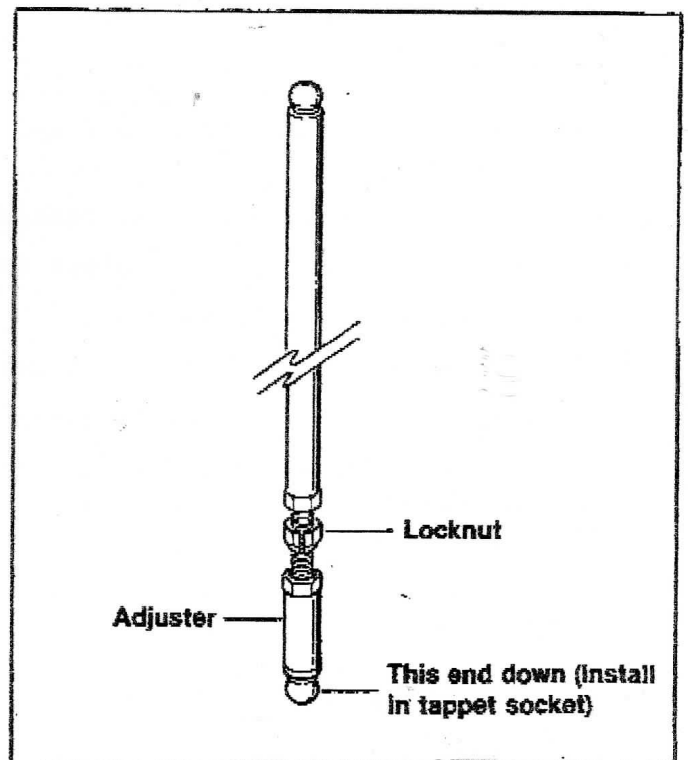

Figure 2
4. See Figure 2. Loosen locknut on one of the long pushrods and turn adjuster clockwise to shorten pushrod.